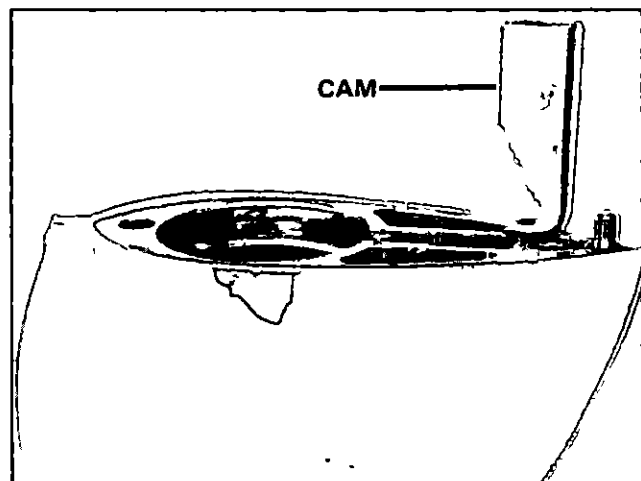

Figure 36. Installing Cam.
- A Slide cam into slot in lower gear housing. Note position, Figure 36